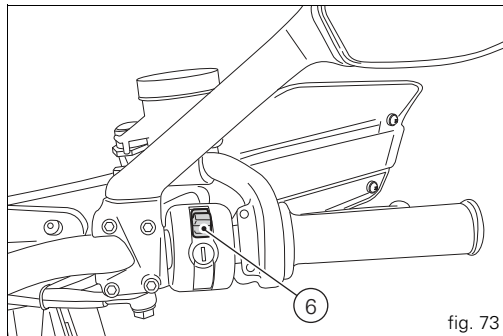

fig. 73
Key-Off is done using the button (6, fig. 73) on the handlebar on the right switch or using the emergency button (7) on the Hands free lock (1, fig. 72).